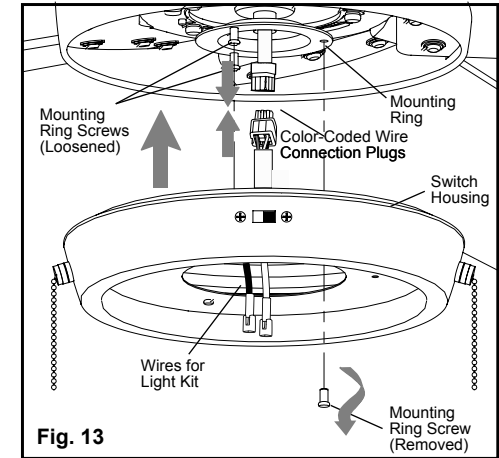

Fig. 13
Step 1. Connect the fan supply (black) wire and light supply (blue) wire to the household supply (black) wire as shown in Figure 13.
Step 1. Remove one of the mounting ring screws. Retain mounting ring screw. Loosen the other two mounting ring screws (do not remove). (**Fig. 13**)
Align the remaining hole in the switch housing with the remaining hole in the mounting ring. Install the mounting ring screw that was removed from the mounting ring into the aligned holes. Tighten all 3 screws to secure. (**Fig. 13**)